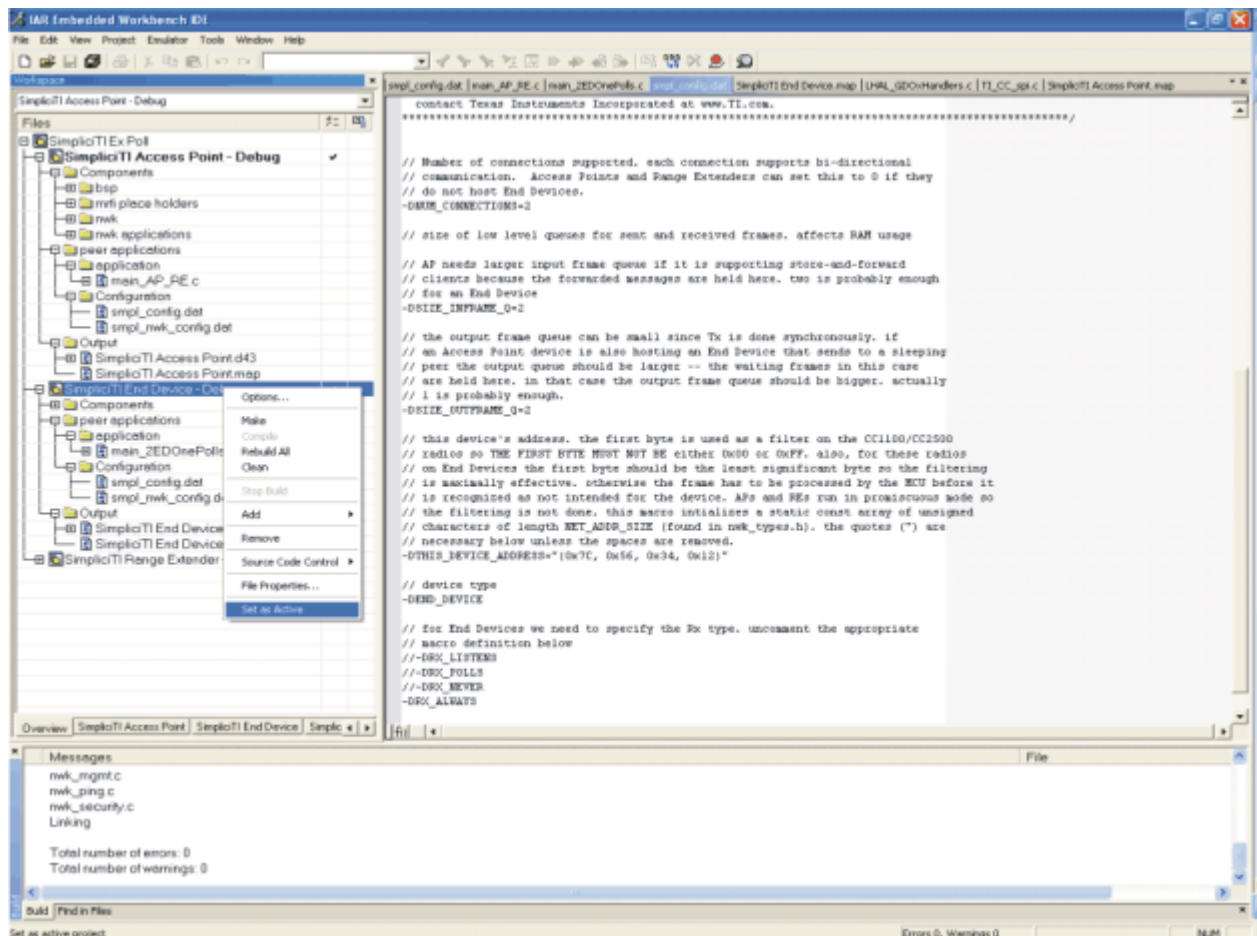

Figure 7. IAR Embedded Workbench KickStart Workspace
- (a) Right click on **Access Point** project in the workspace and click **Set as Active** as shown in Figure 7.